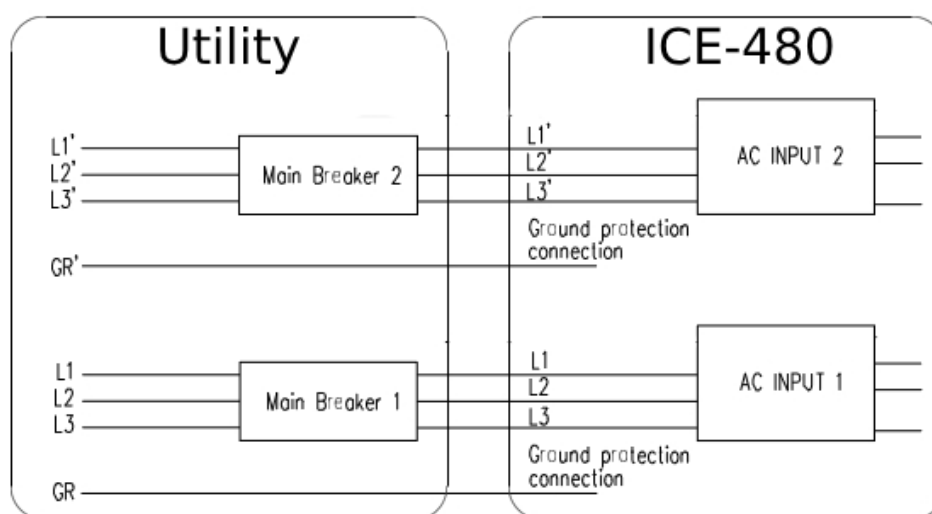

Figure 5.12 Power Cabinet AC Input Cable
- Power Cabinet AC input wiring: two sets of AC input, using four-core cables, 3 phases + protective grounding as shown in Figure 5.12